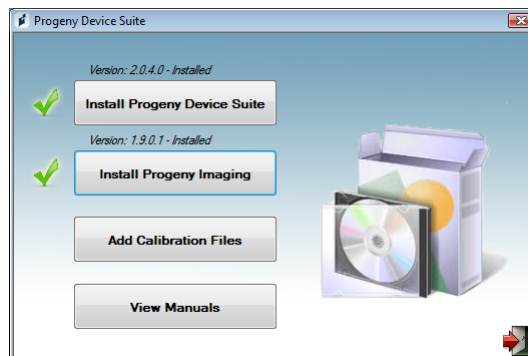

Figure 5: Progeny Device Suite and Progeny Imaging are installed
- Green check marks next to each of the 'Install Progeny Device Suite' and 'Install Progeny Device Suite' buttons will appear when both the Progeny Device Suite and Progeny Imaging are installed (Figure 5).